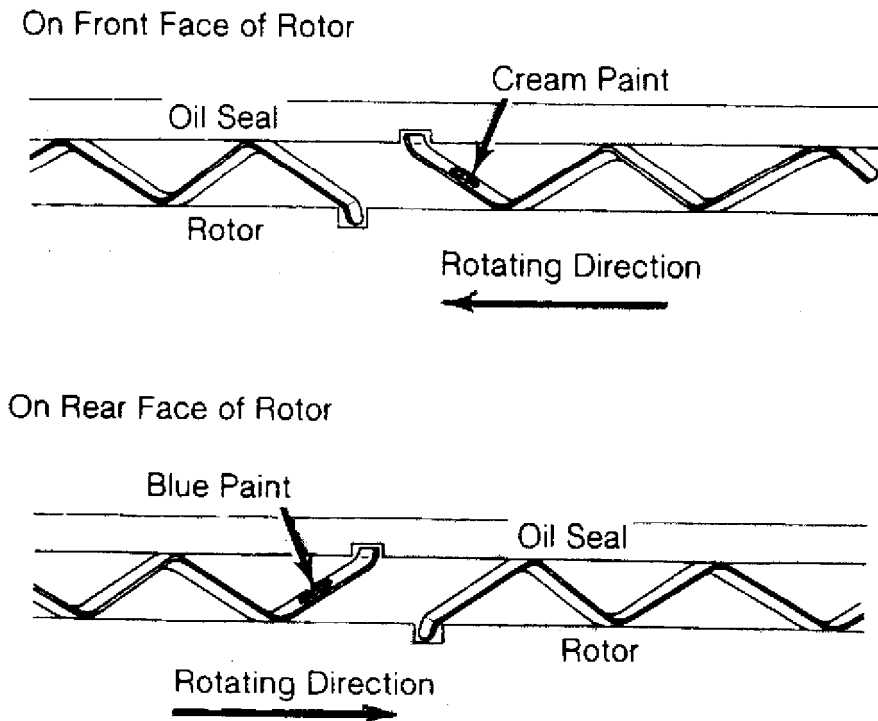

Fig. 19: Installing Oil Seal Spring on Rotor
2) Ensure oil seal springs have been painted in cream or blue color: Cream colored springs must be placed on front edge faces of rotors and blue springs on rear faces of rotors. When installing, painted side of spring must face oil seal (upward). See Fig. 19.